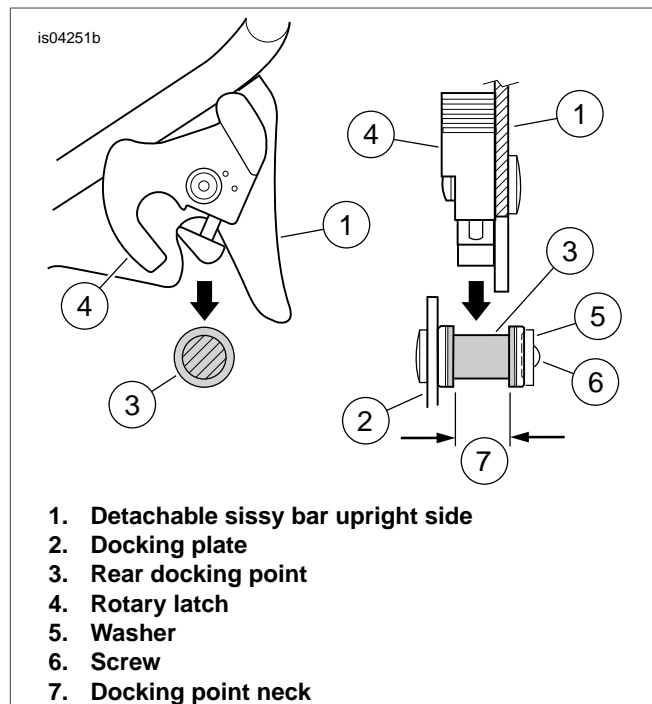
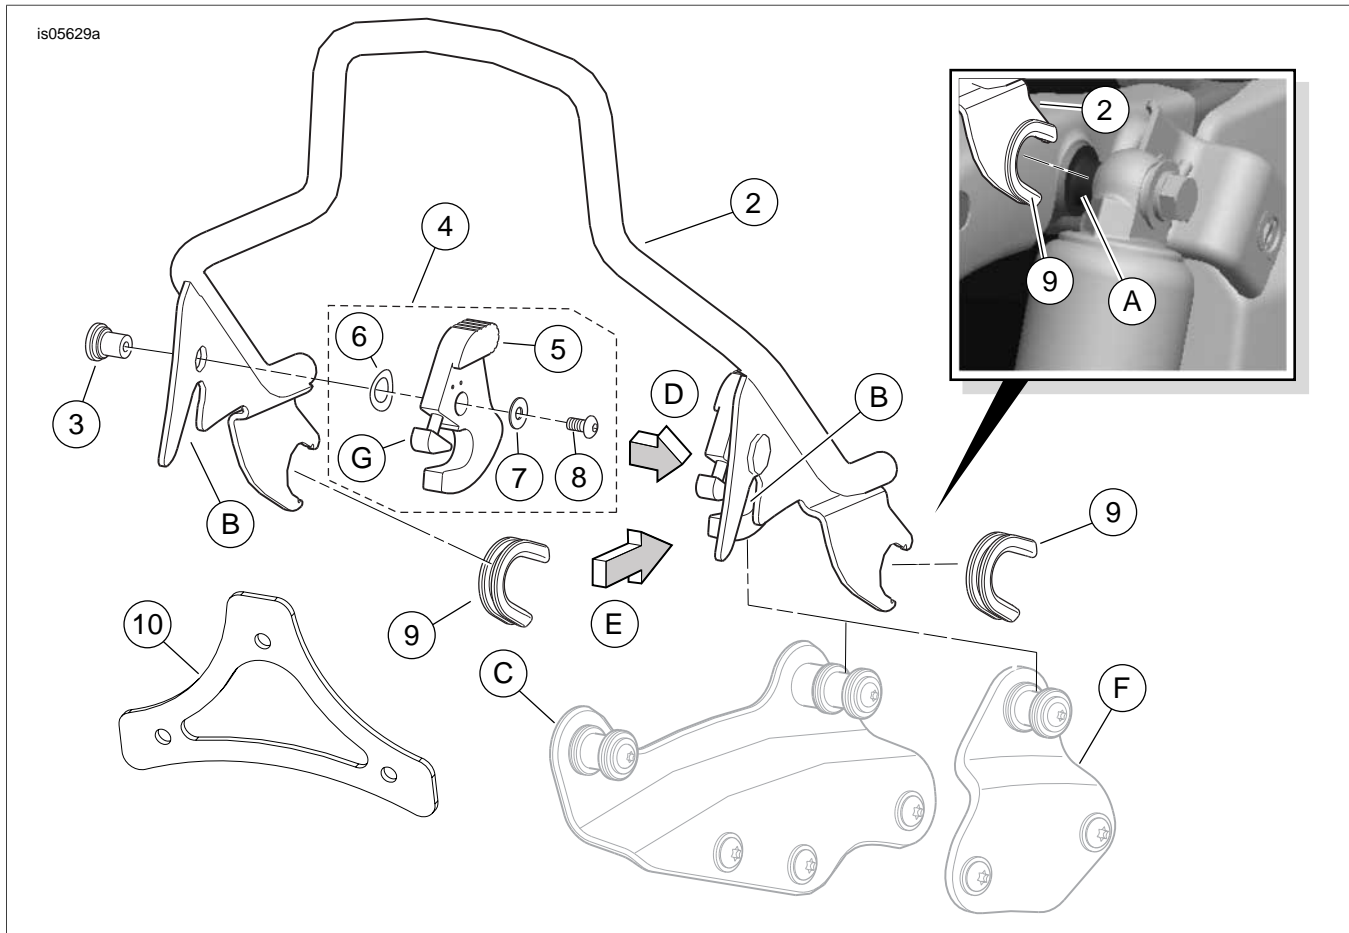

Figure 1. Proper Alignment of Latch in Rear Docking Point, Views in Direction of Arrows (D) and (E)
Figure 2. Service Parts: Touring Detachable Sissy Bar Uprights
See Figure 2 and Table 1.
2. See Figure 2.
3. See Figure 2, arrows (D) and (E), and Figure 1. Position the rotary latches (4) over the rear docking points (3).
After installing the sissy bar upright, check to be sure the sissy bar is secure. The front and rear docking points must be fully engaged. See Figure 1 for correct engagement.
D	To right side of vehicle (view direction for Figure 1)
E	To front of vehicle (view direction for Figure 1)